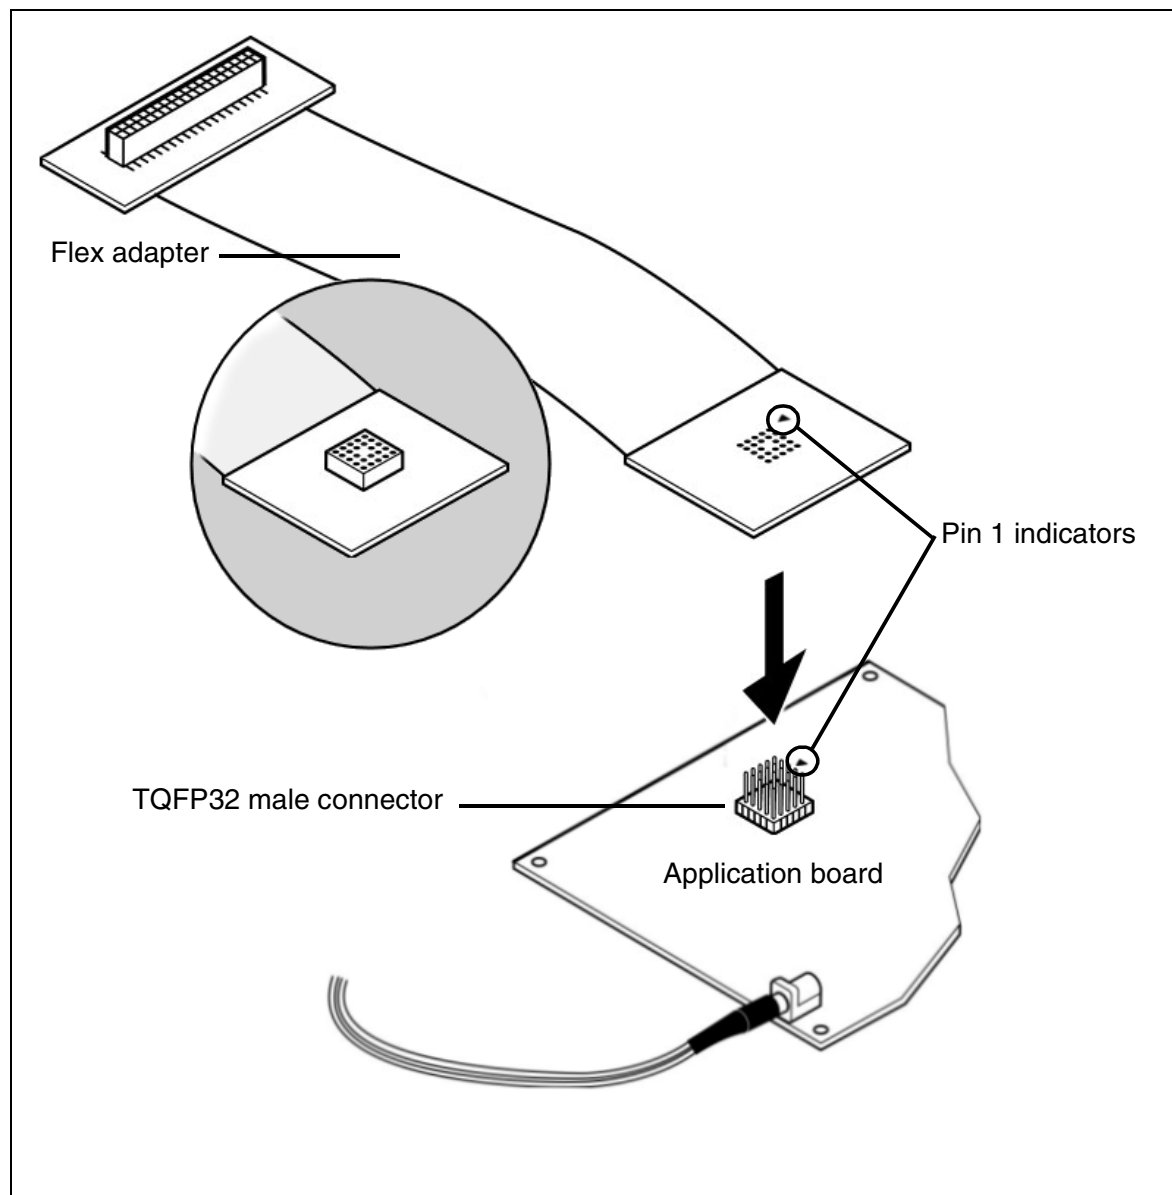

Figure 8: TQFP32 (7 x 7) connection scheme
- 2 Align the pin 1 indicators for the TQFP32 end of the DB522 flex adapter and the TQFP32 male connector on the application board. Then insert the pin of the TQFP32 male connector into the female connector of the DB522 flex adapter as shown in *Figure 8*.